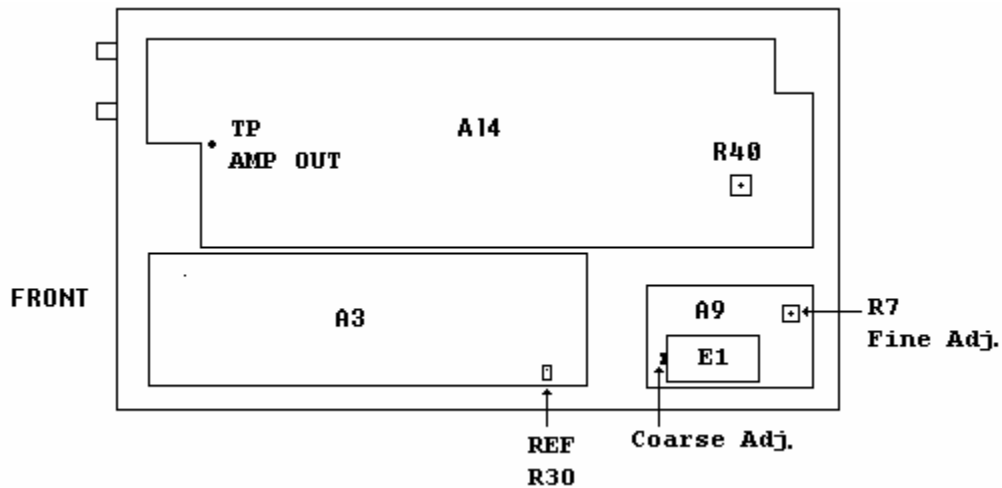

Figure 3. Test instrument - bottom view.
- (1) Disconnect TI rear panel **10 MHz OVEN OUTPUT** from **EXT REF IN** option 001 only.
- (2) Connect frequency counter **CHANNEL A** to TI rear panel **AUX 21-60 MHz**.
- (3) Press keys and enter values using **DATA** keys as listed in (a) through (c) below:
- (4) Adjust REF R30 (fig. 3) until frequency counter indicates 60.000000 MHz (R).
- (5) Disconnect frequency counter from TI rear panel **AUX 21-60 MHz**.
- (6) Connect frequency counter **CHANNEL A** to TI **SIGNAL**.
- (7) Enter **20 MHz** using **DATA** keys. Frequency counter will indicate between 19.99990 and 20.00010 MHz.
- (8) Disconnect frequency counter from TI.
- (9) Perform (10) through (14) below for option 001 only.
- (10) Program time frequency workstation for a 1 MHz output and connect to frequency difference meter **REF INPUT**.
- (11) Connect TI rear panel **10 MHz OVEN OUTPUT** to frequency difference meter **SIG INPUT**.
- (12) Adjust A9R7 Fine Adj. (fig. 3) and A9 Coarse Adj. (fig. 3) for a minimum indication on frequency difference meter.
- (13) Disconnect TI from frequency difference meter.
- (14) Reconnect TI rear panel **10 MHz OVEN OUTPUT** to **EXT REF IN**.